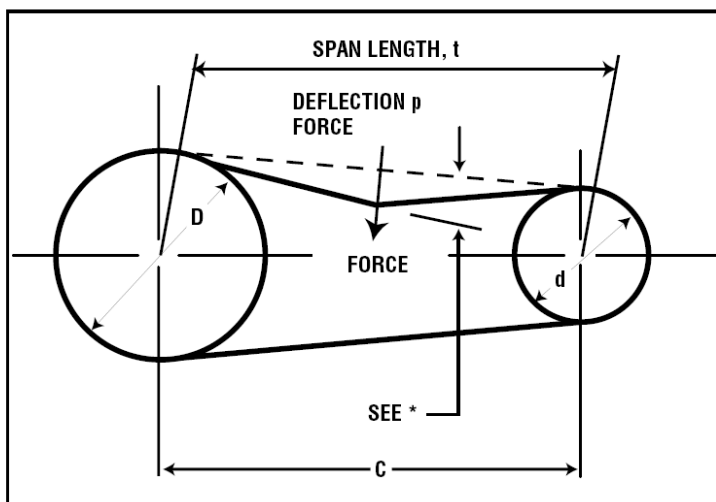

Figure 27 MEASURING DEFLECTION FORCE
1. Measure the span length of the drive. (See Figure 27). Set the large "O" ring at 1/64" for each inch of belt span. For example, set the large "O" ring 1/4" for a span length of 16", at 1/2" for a span length of 32", at 1" for a span length of 64" etc.